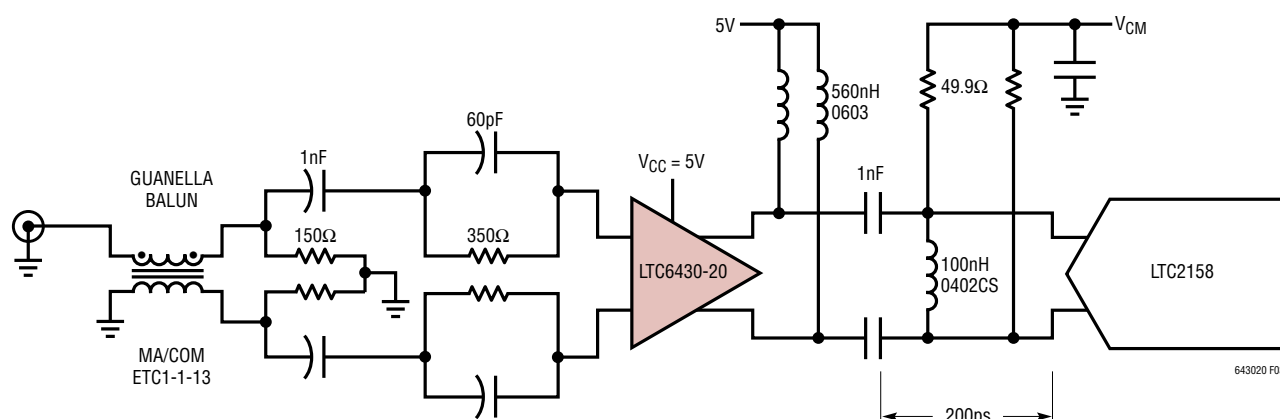

Figure 3. Wideband ADC Driver, LTC6430-20 Directly Driving the LTC2158 ADC
1.25GHz of input bandwidth in an undersampling application. Typically, a filter is used between the ADC driver amplifier and ADC input to minimize the noise contribution from the amplifier. However, with the typical SNR of higher sample rate ADCs, the LTC6430-20 can drive them without any intervening filter, and with very little penalty in SNR. This system approach has the added benefit of allowing over two octaves of usable frequency range. The LTC6430-20 driving the LTC2158, as shown in the circuit of Figure 3, the bandwidth is limited only by the 1.25GHz input BW of the ADC, still produces 57dB SNR, and offers IM performance that varies little from 240MHz to 1GHz. At the lower end of this frequency range, the IM contribution of the ADC and amplifier are comparable, and the third-order IM products may be additive, or may see cancellation.